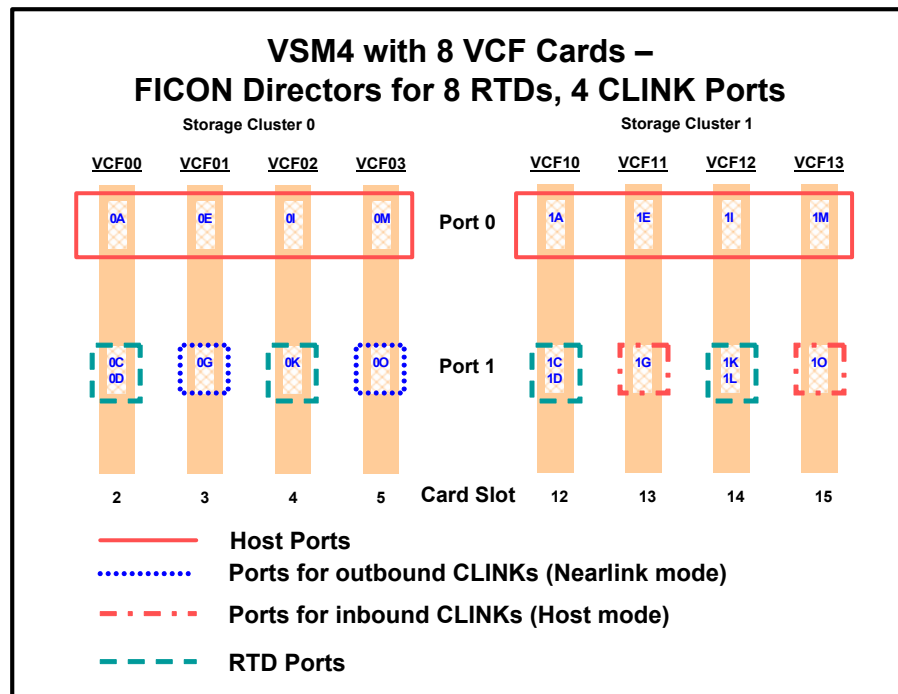

FIGURE A-2 VSM4 with 8 VCF Cards, 8 Host Ports, FICON Directors for 8 RTDs, 4 CLINK Ports
Now it's time to take a look at the hardware for this Clustered configuration. FIGURE A-2 shows CONFIG channel interface identifiers for a VSM4 with 8 VCF cards. In this configuration, we've allocated:
- 4 ports for CLINK connections to form a Uni-Directional VTSS Cluster, and 8 ports to host connections. To form the clustered VTSS, we'll have two VSM4s (VTSS1 and VTSS2) configured identically as shown in FIGURE A-2.